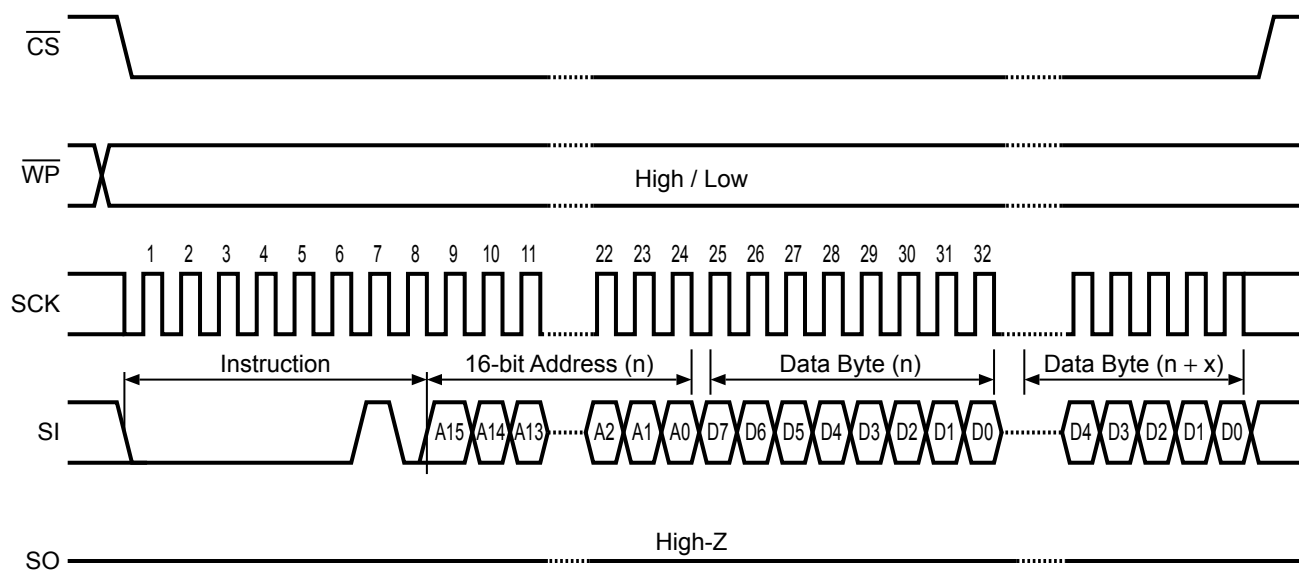

Figure 17 WRITE Operation (Page)
The S-25C512A can Page Write of 128 bytes. Its function to transmit data is as same as Byte Write basically, but it operates Page Write by receiving sequential 8-bit Write data as much data as page size has. Input the instruction code, the address and data from serial data input (SI) after inputting “L” in $\overline{\text{CS}}$, as the WRITE operation (page) shown in **Figure 17**. Input the next data while keeping $\overline{\text{CS}}$ in “L”. After that, repeat inputting data of 8-bit sequentially. At the end, by setting $\overline{\text{CS}}$ to “H”, the WRITE operation starts (t_{PR}).